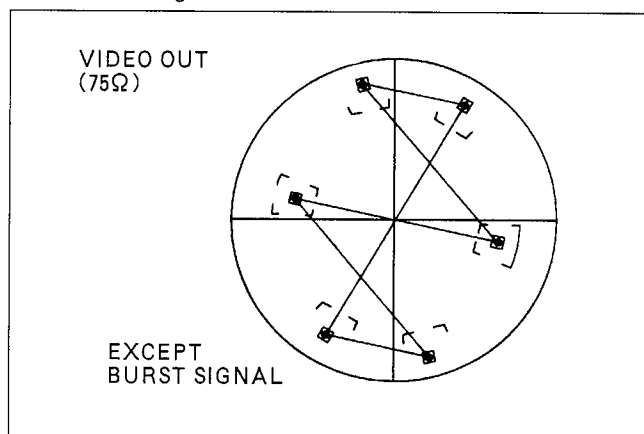

Figure E30
SPEC.	FIG. E30
2. Adjust VR8801, VR8802 and VR8815 so that the all vectors except burst phase become correct position as shown in Figure E30.